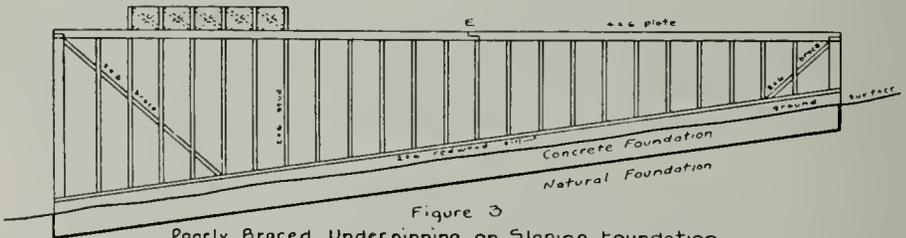
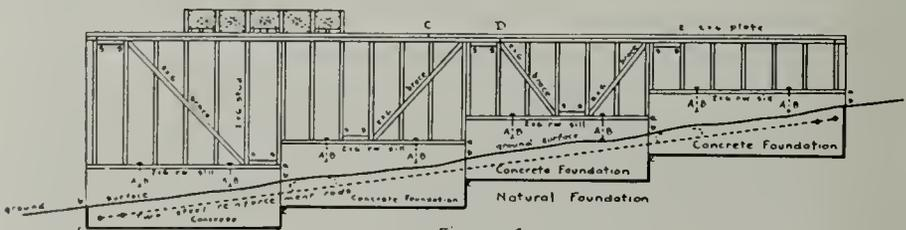
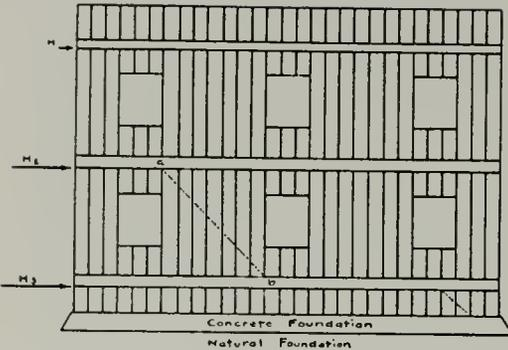
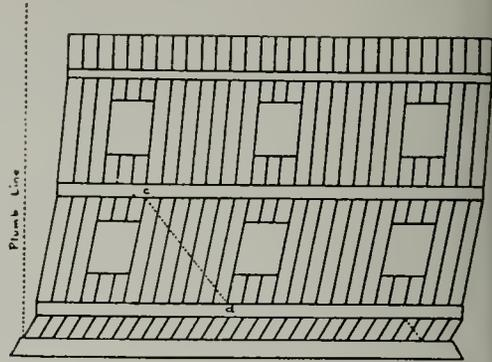

Figure 3
Figure 4
Fig. 1
Fig. 2
Because of the inertia of a building, the mechanical effect of rapid vibration of its natural foundation is equivalent to the application of horizontal thrusts such as H1, H2, and H3 in Figure 1. When the frame is low, as in this illustration, the greatest strain occurs at the base in the underpinning. When not braced, the frame will become distorted, as shown in Figure 2, the angular distortion of vertical members in different stories varying and being a maximum in the underpinning. The entire building also tends to slide from its concrete foundation, particularly when the top of this foundation is sloped instead of stepped. The design of structural details which will be outlined in the following
Assuming a rather compact well drained gently sloping soil as a natural foundation, the excavation for the concrete foundation should always be stepped, as shown in Figure 4, rather than sloped, as shown in Figure 3, in order to retard the building or its foundation from sliding. In order to prevent decay of the sill or underpinning, the height  $ba$  in Figure 4 should be a minimum of 6 inches, and to obtain reliable bearing on the natural foundation, the depth  $bc$  should not be less than 12 inches. The foundation should contain at least five bags of Portland cement per cubic yard of concrete. In order to tie its different parts together, the concrete foundation should be reinforced with two steel rods not less than  $\frac{5}{8}$  inch in diameter, as shown in Figures 4 and 8. The ends of the separate lengths of these rods should have 180 degree hooks, they should overlap at least two feet and the overlap should not be placed at the corners of the foundation. The interior transverse and longitudinal concrete foundations should be similarly reinforced so as to be well tied to the exterior foundation. Particular care should be taken to dimension the various bearing areas between concrete and natural foundations so that they will be in proportion to the superimposed vertical loads from the building. This will prevent unequal settlement with consequent damage to plaster when the natural foundation yields during the vibration caused by an earthquake.
At intervals of about four feet, bolts 12 inches long by  $\frac{5}{8}$  inch in diameter should be imbedded vertically in the concrete foundation, as shown at AB in Figures 4 and 8, to provide for anchorage of the redwood sill which should be bolted tightly with nuts and washers. The eight anchor bolts shown in Figure 4 give that side of the building alone a resistance against slipping from the concrete foundation about 80,000 pounds greater than the resistance of the side shown in Figure 3. In Figure 7 the plan of the top of the concrete foundation is outlined by dashed lines but neither reinforcement rods nor anchor bolts are shown.
**UNDERPINNING.** The sill should be 2 by 6 inches in section and of redwood, because redwood is more resistant to decay than fir or pine. For reasons previously given, the underpinning, which should consist of 2 by 6-inch pine or fir studs placed 16 inches center to center, must be well braced by diagonal members of the same size, arranged as shown in Figure 4, rather than as shown in Figure 3 which illustrates common practice.
The function of the diagonal brace is easily explained by reference to Figures 1 and 2. The frame in Figure 1 may become distorted as in Figure 2, only if the distance  $ab$  in Figure 1 may become shortened to the distance  $ed$  in Figure 2. The insertion of a member along  $ab$ , called a diagonal stud brace, prevents this change in distance and hence acts to prevent distortion of the frame. If however the ends of the diagonal stud brace slip at either  $a$  or  $b$  or at any intermediate joint in the brace, distortion of the frame will occur. To prevent such slipping, the diagonal braces of the underpinning in Figure 4 are made continuous rather than discontinuous as in Figure 3, and stays, 2 by 6 inches in section, are wedged between the vertical studs at their ends, as shown at  $ss$  in Figures 4 and 8. Furthermore, the ends of the diagonal braces in Figures 4 and 8 are saved to a blunter angle than are the ends of the braces in Figure 3; this increases their resistance. To prevent splitting, holes should be drilled in the stays for the large nails that should be used. After the diagonal brace is in place, the stay should be tightly wedged into position and each stay should have ten 20-penny nails so offset as not to split the sill. The underpinning of each side of the building should have at least two diagonal stud braces sloping in each direction as shown in Figure 4.
Assuming the common practice of three 12-penny nails at each joint of the braces in Figure 3, the underpinning as braced in Figure 4 can withstand a horizontal thrust at the level of the plate, ten times greater than that which may be resisted by the underpinning in Figure 3. This great increase in resistance is accomplished at small cost by employing more efficient timber joints. The cost and appearance of the plaster are important items in a stucco dwelling. During a severe earthquake, great rigidity of the bracing, over and above that required to prevent structural damage to the building, pays large dividends by reducing injury to the interior and exterior plaster to a minimum.
desirable in order to support a line of braced underpinning that is adequately tied to the otherwise long exterior walls to prevent them from bulging at C and D. The plate of the underpinning should be double instead of single, because this permits of well nailed joints having a large overlap like CD in Figure 4, instead of a joint with short overlap as at E in Figure 3, which is very weak in horizontal tension. The corner ties, br in Figure 7, should be of fir or pine 2 by 6 inches in section. They should be drilled at each end for five 20-penny nails and attached as shown to the top of the redwood sill, also to the bottom of the 4 by 6-inch plate.
**FLOORS.** To insure lateral support, the joists, fg in Figure 7, which are usually 2 by 10 inches or 2 by 12 inches in section according to span, should be bridged solidly with 2-inch pine along plates EF, AB and GH. The cross bracing of joists along lines JK and LM in Figure 7, which is also shown dotted in Figures 3 and 4—because it is concealed by the solid bridging—would be much more efficient in stiffening the floor than it frequently is, if it were made 2 by 4 inches in section instead of 2 by 3 inches, if care were taken to mitre the ends of the pieces accurately against the sides of the joists and if the pieces were drilled for two 12-penny nails at each end instead of being split by driving in two 10-penny nails. This cross bracing of joists acts to stiffen the floor by distributing concentrated vertical loads to adjacent joists.